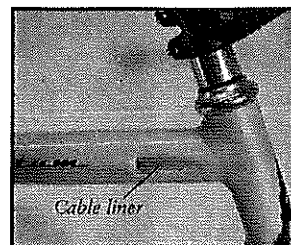

Fig. 20
Klein bikes using internal cable routing are packaged with cable liners (Fig. 20) in place. The liners are installed at the factory. Follow these instructions to install the cables.
3. Insert the cable into the cable liner (Fig. 20).